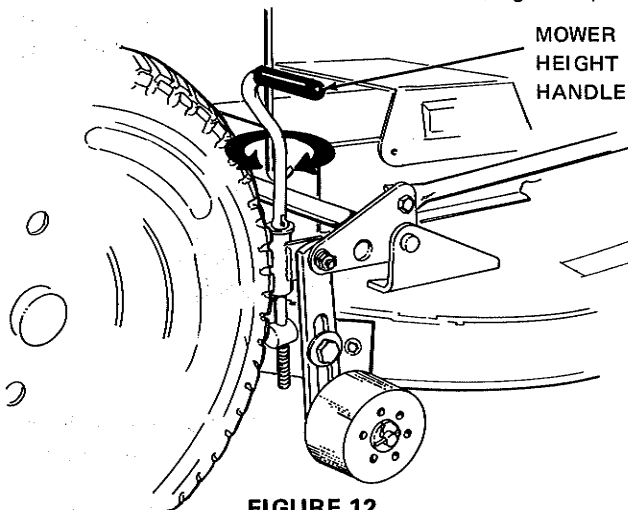

FIGURE 12
2. The height adjusting handle at the rear right side of the mower housing raises and lowers the mower at both front and rear. Twist the handle **CLOCKWISE** to **RAISE** the blade and **COUNTERCLOCKWISE** to **LOWER** it. (Figure 12)